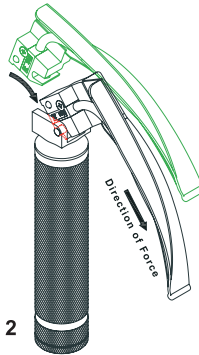

Fig 2
1. Engage the blade by aligning the slot of the blade on to the hook pin of the handle and apply a sufficient force 10N-45N to make engagement as show in Fig 2.
Laryngoscope blades and handle should always be tested after cleaning/ disinfection/ sterilization and prior to use. To test connect the laryngoscope blade to handle and pull it to the ON position as in Fig 2 if the unit fails to light or flicker, check the lamp/ batteries and the electrical contacts, Be sure adequate supplies of spare lamps, batteries and replacement parts are readily available if problem still persists, contact supplier please.